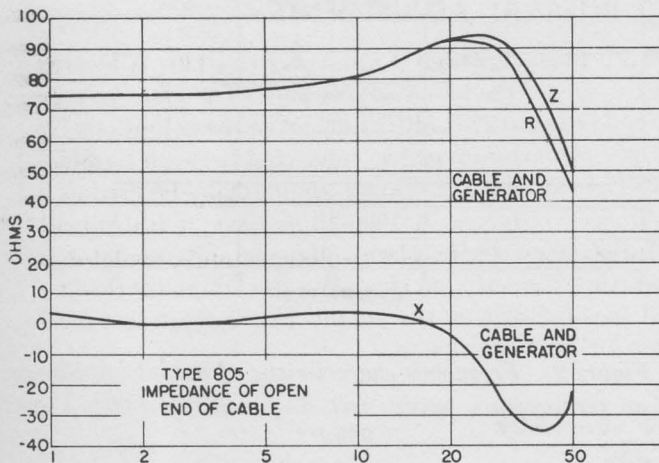
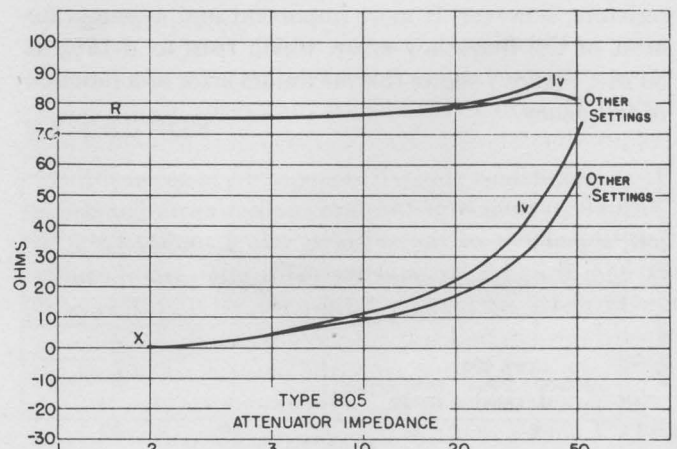

Figure 10. Output impedance at open end of cable.
Figure 11. Attenuator impedance as a function of frequency.
3.32 With the termination unit removed and an equivalent cable of the same length and impedance substituted, the impedance characteristic is that shown in Figure 10, and the open-circuit voltage is twice that indicated by the output meter and attenuator.
3.33 The deviation in impedance from the normal resistive value of 75 ohms is caused by inductance in the attenuator, whose characteristic is shown in Figure 11. Since the attenuator and cable system is series resonant at approximately 20 megacycles, the sign of the reactance seen at the open end of the cable is reversed at higher frequencies, as shown in Figure 10.